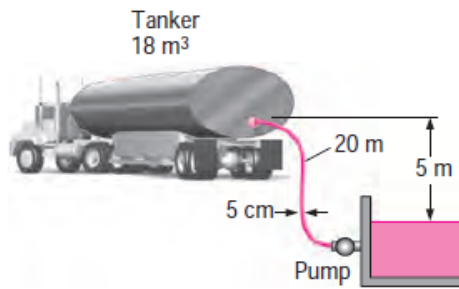

Figure 1:
10. A vented tanker is to be filled with fuel oil with  $\rho = 920 \text{ kg/m}^3$  and  $\mu = 0.045 \text{ kg/ms}$  from an underground reservoir using a 20-m-long, 5-cm-diameter plastic hose with a slightly rounded entrance and two  $90^\circ$  smooth bends as shown in figure 1. The elevation difference between the oil level in the reservoir and the top of the tanker where the hose is discharged is 5 m. The capacity of the tanker is  $18 \text{ m}^3$  and the filling time is 30 min. First Check whether the flow is laminar or turbulent. Taking the kinetic energy correction factor at hose discharge to be 1.05 and assuming an overall pump efficiency of 82 percent, determine the required power input to the pump. State all the assumptions to solve the problem.